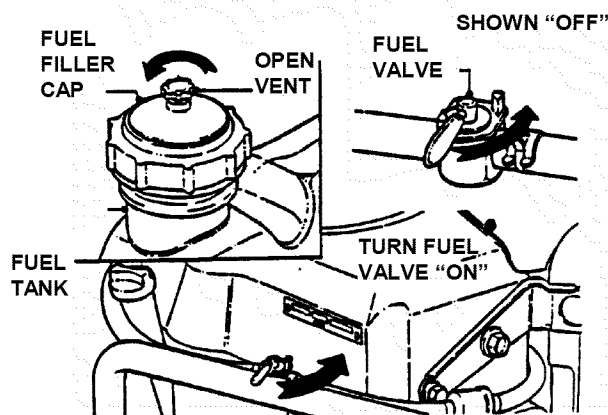

FIGURE 2.2
2.1.7. Add fuel to tank after pushing the Rear Engine Rider outside where fumes can dissipate. Make sure fuel filler cap is tight, vent is open and fuel valve is "ON" after refueling. Refer to engine owner's manual. See Figure 2.2.